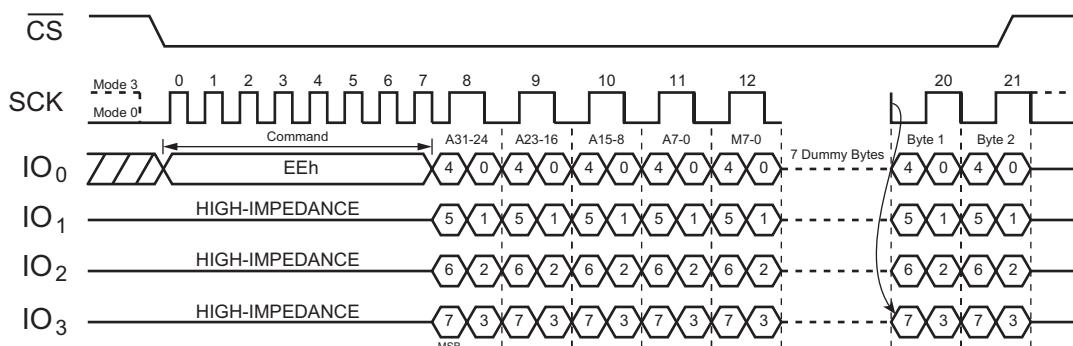
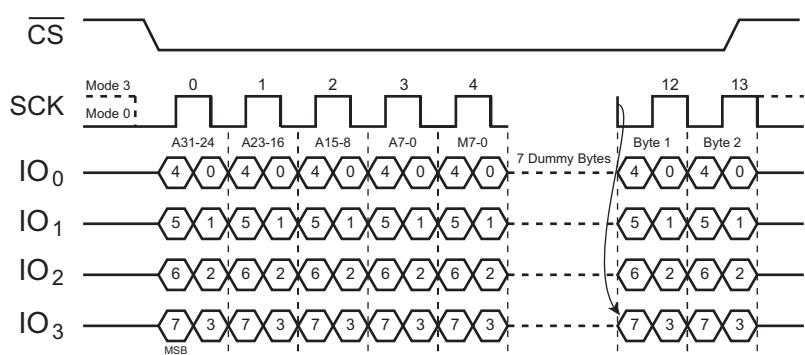

Figure 65. DTR Quad I/O Fast Read with Four-Byte Address (SPI Mode, Initial command or previous M5-4≠10)
Figure 68. DTR Quad I/O Fast Read with Four-Byte Address (QPI Mode; Initial command or previous M5-4=10)
The DTR Quad I/O Fast Read with Four-Byte Address (EEh) command is similar to the Fast Read Dual I/O (BBh) command except that address and data bits are input and output through four pins  $\text{IO}_0$ ,  $\text{IO}_1$ ,  $\text{IO}_2$ , and  $\text{IO}_3$ , as well as four Dummy clocks, are required in SPI mode before the data output, as shown in Figure 65 to Figure 68. The Quad Enable bit (QE) of Status Register must be set to enable.